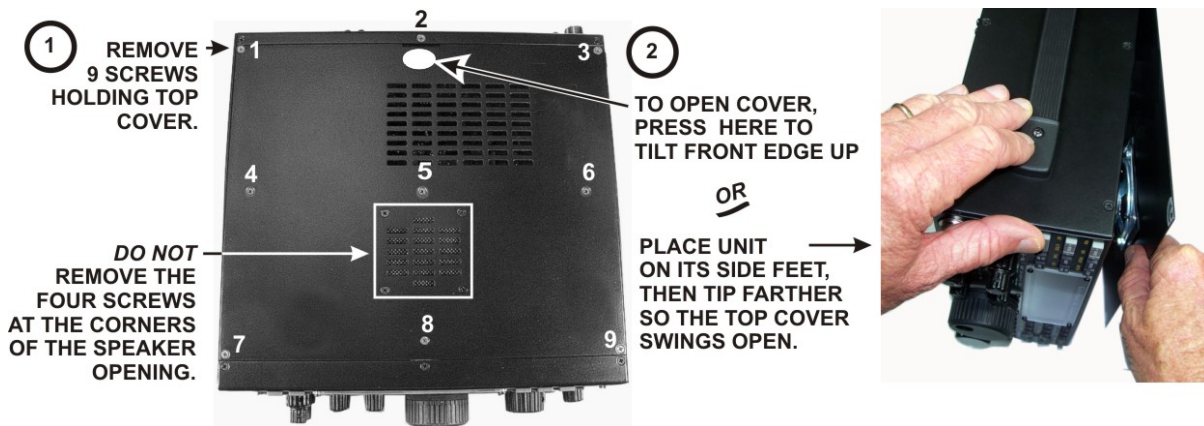

Figure 94. How to Remove the Top Cover.
□ If you have the KPA3 shield installed, place three 4-40 3/16" (4.8 mm) black flat head screws (SS) through the holes across the middle of the cover to secure it to the stiffening bar. If you have not installed the KPA3 shield, the stiffening bar is still attached to the top cover where you mounted it to measure the speaker grill cloth for trimming. Place a 4-40 3/16" (4.8 mm) black flat head screw (SS) into each side panel to secure the ends of the stiffening bar.
*When removing the top cover in the future, the normal procedure is to remove the nine screws on top, leaving the stiffening bar on the chassis (see Figure 94). If the KPA3 100-watt amplifier is installed, this is the only way the top cover can be removed because the rear shield installed with the KPA3 attaches to the stiffening bar.*